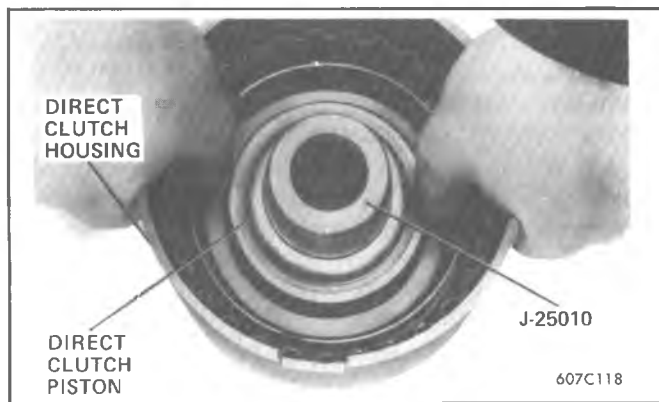

Figure 7A1-115 Installing Direct Clutch Piston
4. Remove snap ring and inspect for damage. (Figure 7A1-121).